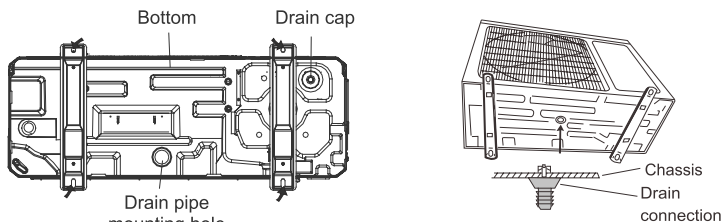

Fig.10
4.2.2 Condensate Drainage of the Outdoor Unit(Only for the heat pump unit) (Fig.10)